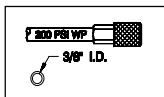

Fig. 3
4. Connect the tool to an air compressor using a 3/8" I.D. hose. Make sure the hose has a rated working pressure exceeding 200 PSI (13.8bar) and a female quick coupler. (See Fig. 3)